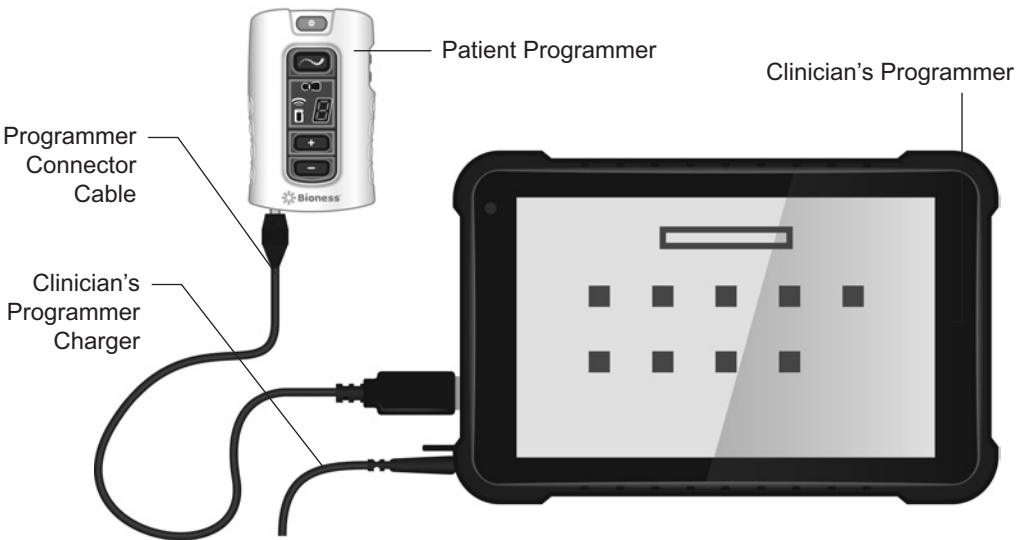

Figure 8-2: Patient Programmer connection configuration
2. Plug the Programmer Connector Cable into the connector port of the Patient Programmer. See Figure 8-2.